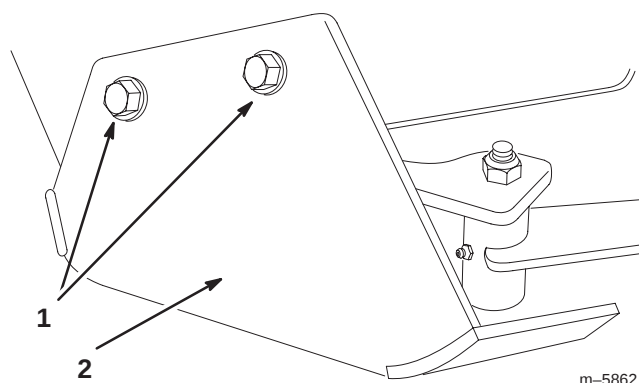

Figure 14
1. Remove the four bolts in the skid plate (Fig. 14).
2. Remove the skid plate (Fig. 14). This will make it easier to install the bagger belt.
10. Install the skid plate (Fig. 14).